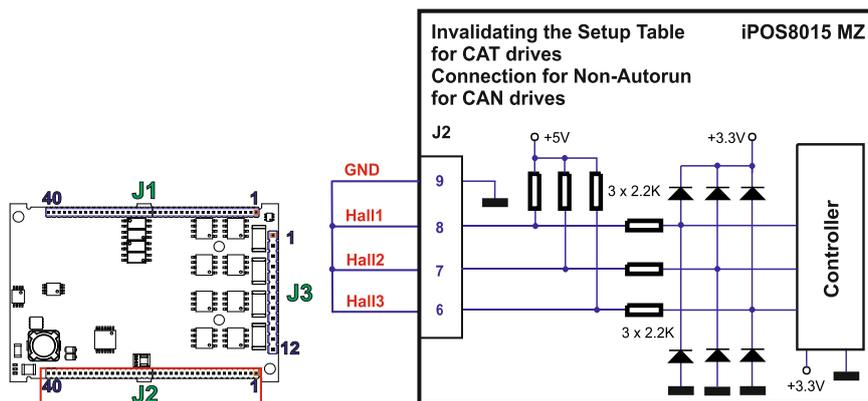

Figure 13.33. Temporary connection during power-on to remove the drive from Autorun mode or invalidate the Setup table
- Hardware2 – Temporarily connect all digital Hall inputs to GND during power-on, and hold this state for approximately 1 second, until the green LED turns on (as shown in **Figure 13.33**). This method is especially useful when communication with the drive is not possible.